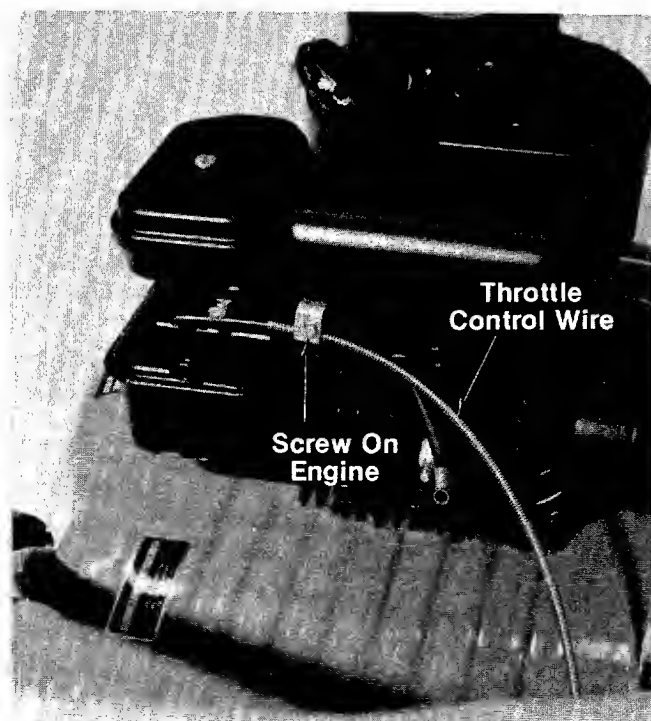

FIGURE 8.
1. Loosen, but do not remove, screw securing throttle control wire assembly at engine. See figure 8.